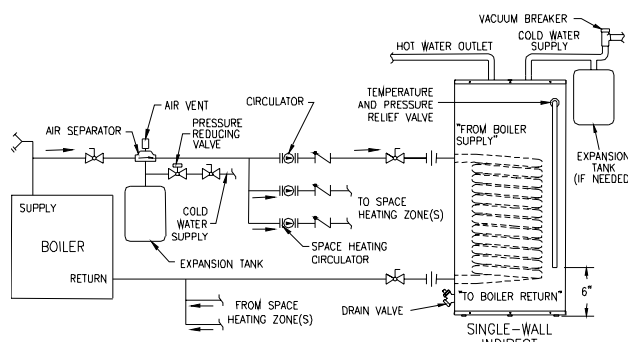

Figure 2 - Water Boiler Piping with Circulators
2. For a space heating system that utilizes CIRCULATORS, refer to Figure 2. The Single-wall Indirect connection labeled “FROM BOILER SUPPLY” should be piped to the boiler supply piping. Mount the circulator making sure the flow arrow points toward the water heater. The use of shut-off valves and unions are recommended for future service convenience. The use of an air separator and vent is recommended to eliminate air in the system. Pipe and fittings between the boiler and Single-wall Indirect must be 3/4” diameter or larger.